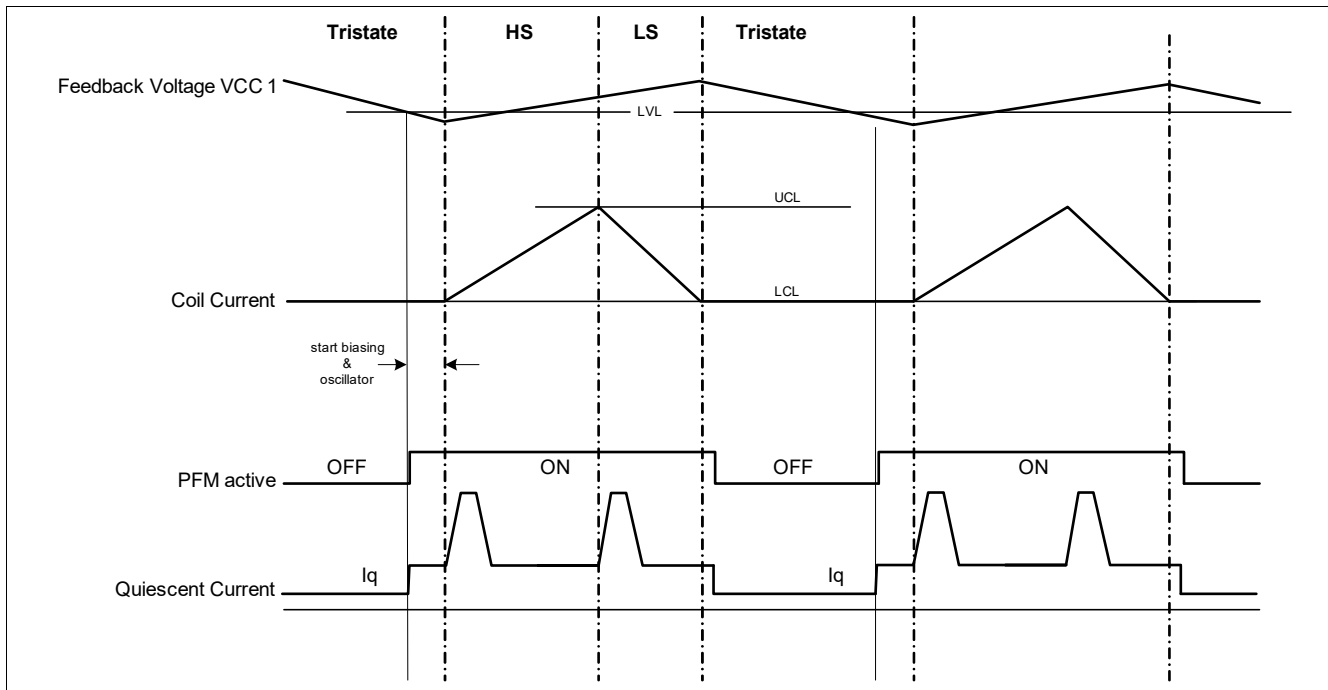

Figure 8 Typical PFM timing diagram
- PFM Mode (Pulse Frequency Modulation):** This mode is activated automatically when the SBC Stop Mode is entered. The PFM Mode is an asynchronous mode. PFM Mode does not have a controller switching frequency. The switching frequency depends on conditions of the Buck regulator such as the following: input supply voltage, output voltage, output current and external components. A typical timing diagram is shown in **Figure 8**. The Buck converter in PFM Mode has a tolerance of $\pm 4\%$. The transition from PFM mode to PWM mode is described in **Chapter 6.4.2**.